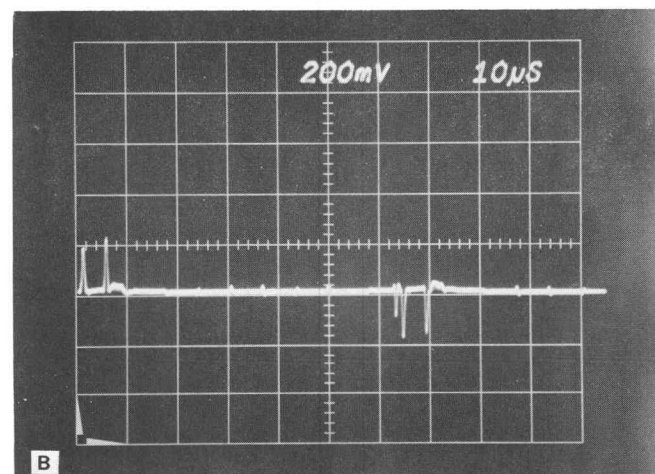

Fig. 3-19. Differential Phase setup.
- Rotate the 1421 PHASE control for minimum amplitude of the demodulated subcarrier. See Fig. 3-19.